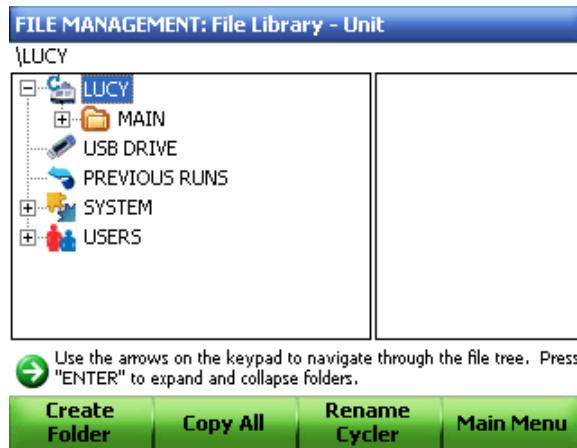

Figure 81. Select the LUCY thermal cycler.
2. Select the cycler or USB key from which files are to be copied (Figure 81).